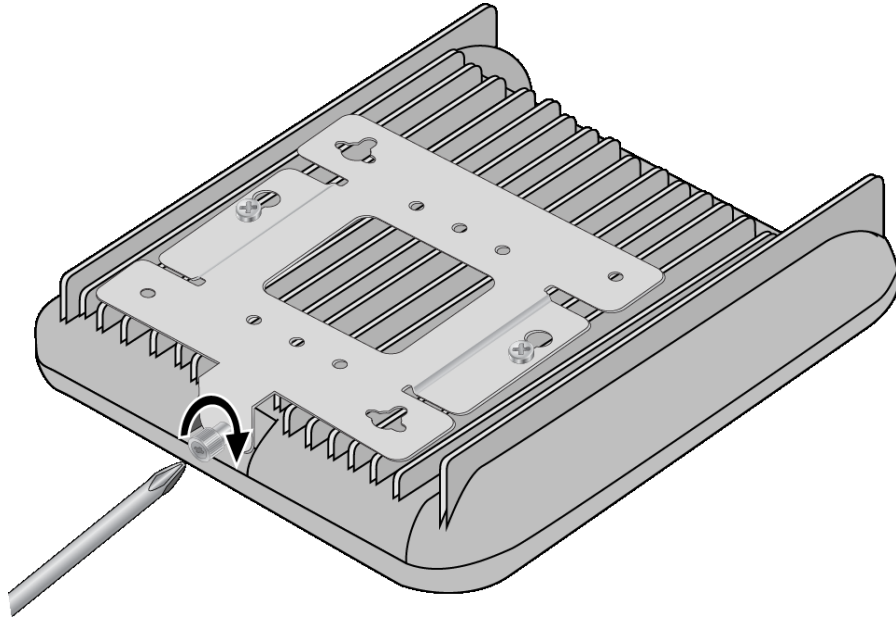

Figure 12. Tightening Bracket Retaining Screw
4. Tighten the bracket retaining screw. Refer to Figure 12.